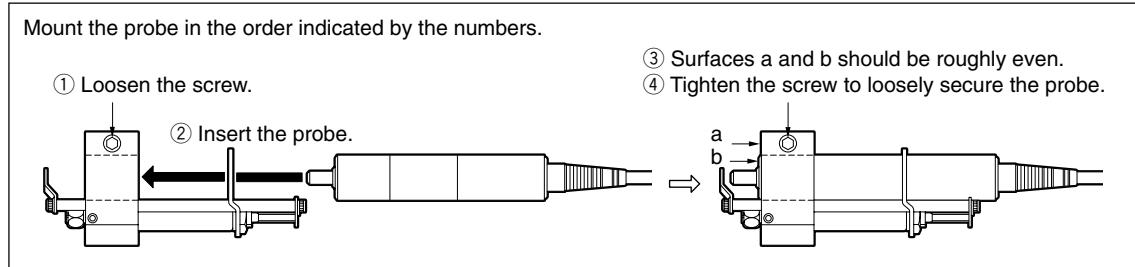

Fig. 4 Mounting procedure of the probe
2. Mount and loosely secure the probe in the order indicated by the numbers. (Fig. 4)